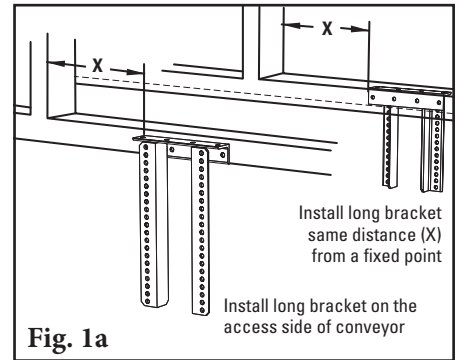

Fig. 1a
**1a. Install the mounting brackets.** Position the long mounting bracket on the structure on the side of the conveyor from which the cleaner will be installed and serviced. With the long bracket installed, take a measurement “X” from a fixed point on the structure to the mounting bracket and transfer to the opposite side of the structure; mount short mounting bracket in this location (Fig. 1a).
**1a. Install the mounting brackets.** Position the first long mounting bracket on the structure on the side of the conveyor from which the cleaner will be installed and serviced. With the first long bracket installed, take a measurement “X” from a fixed point on the structure to the mounting bracket and transfer to the opposite side of the structure; mount the other mounting bracket in this location (Fig. 1a).